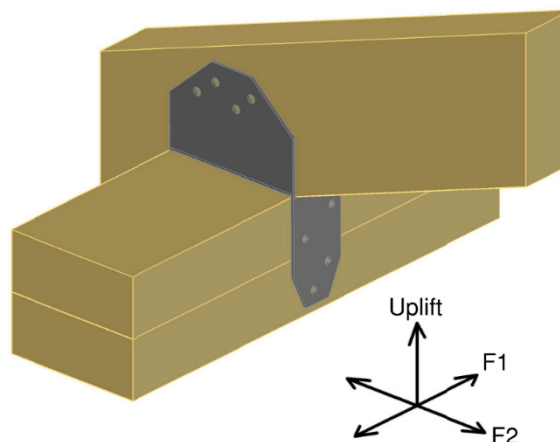

Figure 4. CH26 Load Orientations
2. Loading in the F2 direction indicate shear forces perpendicular to the plane of the wall, connection to top plate in withdrawal. See Figure 4 for more detail.